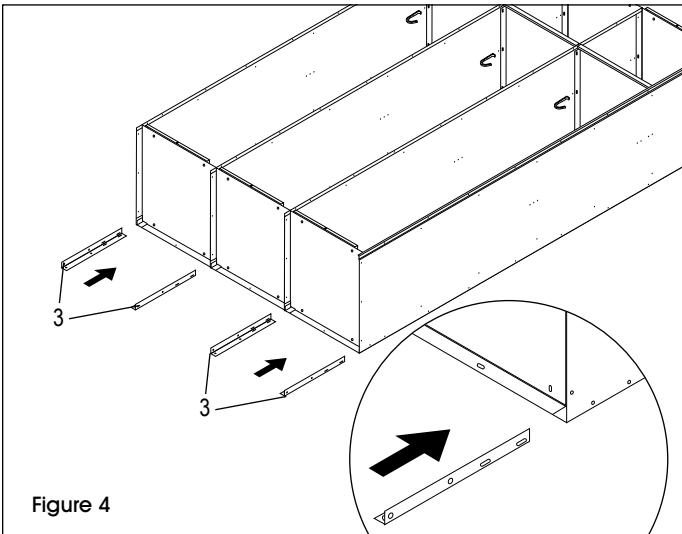

Figure 4
9. Insert the legs (3) into corners between the bottom and the side. Bolt the leg to the side using two bolts and nuts per leg. (See Figure 4)